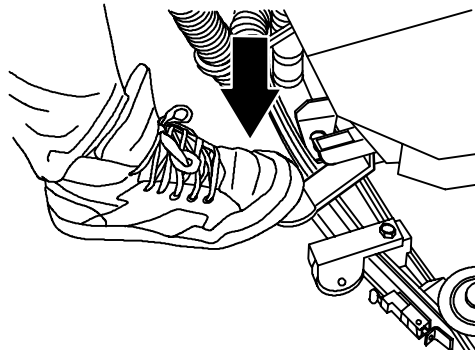

FIG. 13
2. Raise the scrub head with the scrub head lift pedal (Figure 13).